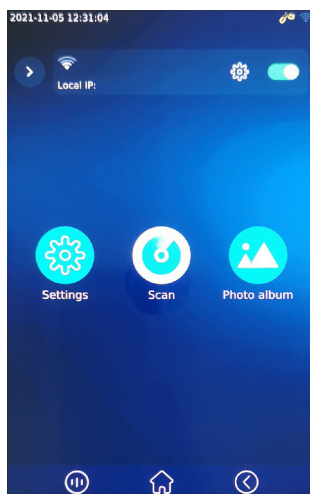

Figure 11
a) Click “Settings” on the home screen, as shown in Figure 11